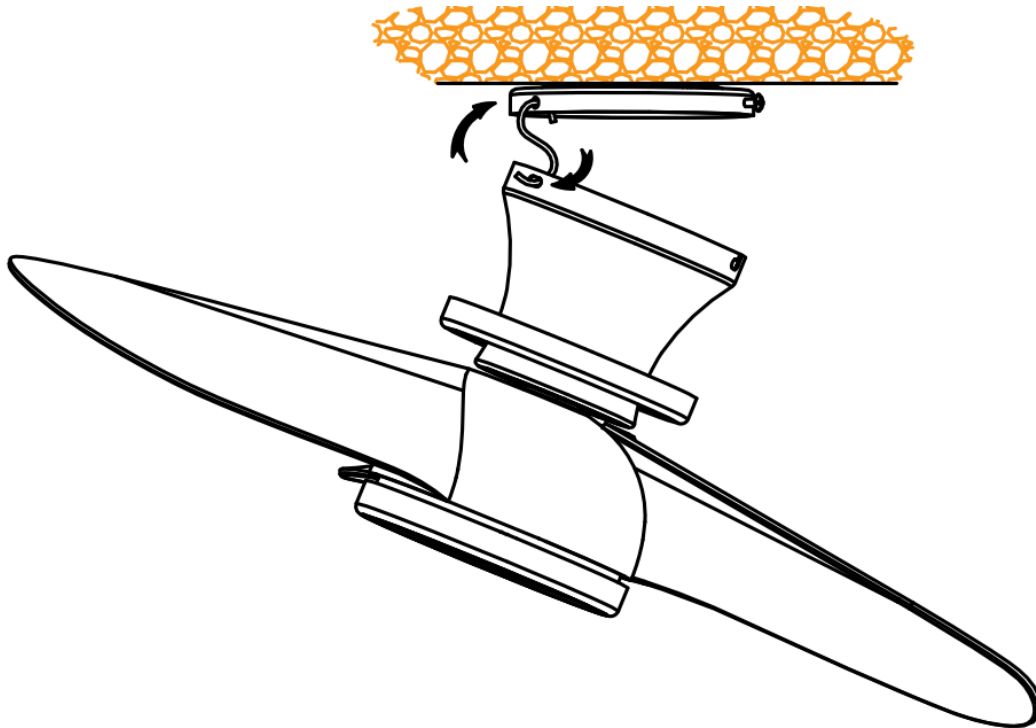

Fig. 5
- Lift the fan assembly up to the mounting bracket. Hang the fan assembly onto the mounting bracket by the S-hook. (Fig.5)